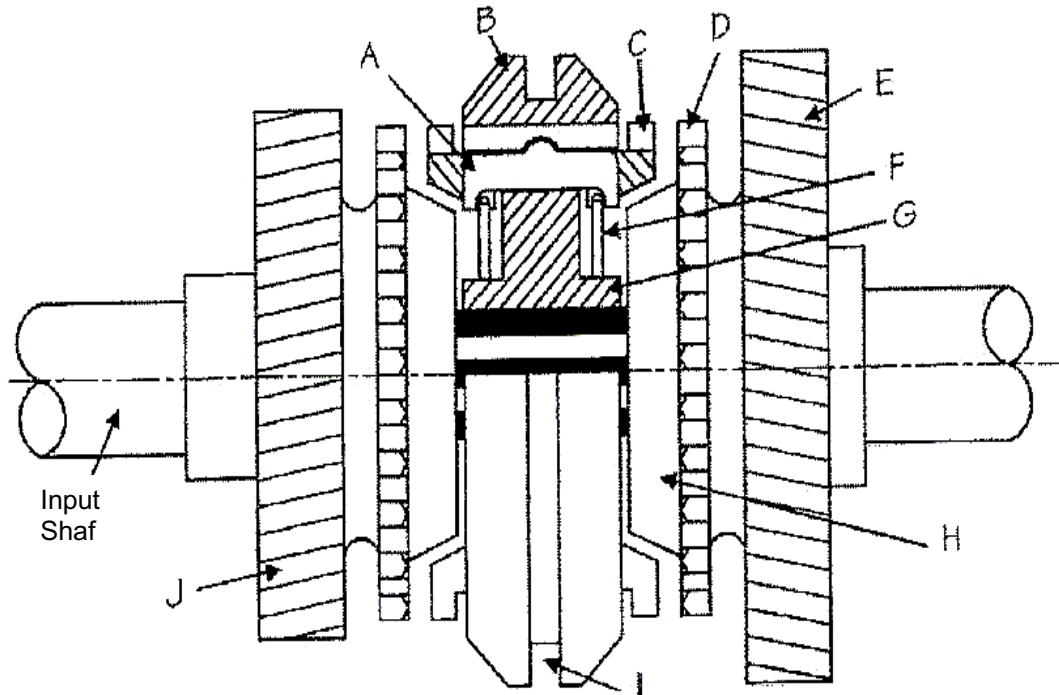

FIGURE 2
4.4 Study FIGURE 2 below that show the construction of a synchroniser unit used in a four-speed gearbox and answer the questions that follow. ✨
- 4.4.1 Identify the type of synchroniser unit shown in FIGURE 2 above. (1)
- 4.4.2 Name the parts labelled A–J in FIGURE 2 above.) ✨ (10) [20]